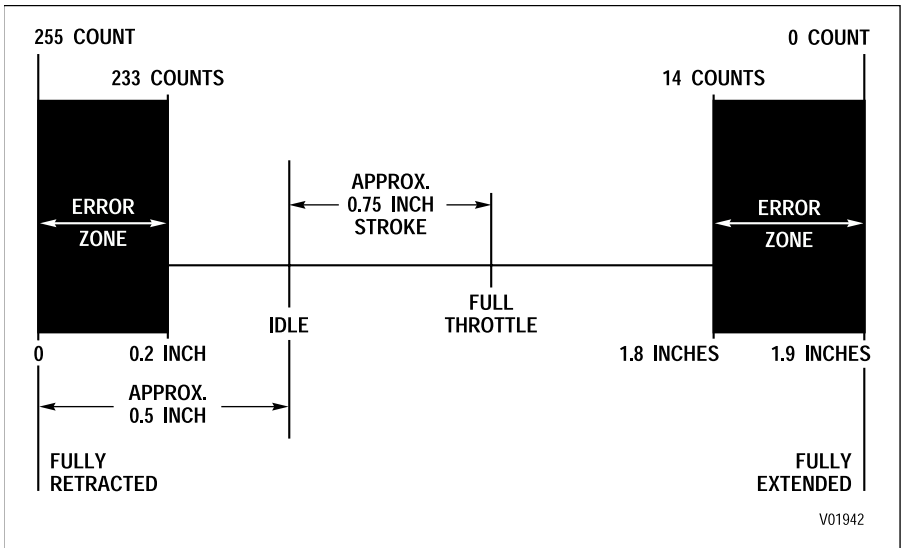

Figure 4-4. Throttle Position Determination Diagram
b. Throttle Position Sensor (TPS) Adjustment — When properly installed by the equipment manufacturer, the TPS should not need adjustment. If TPS adjustment is necessary, confirm that it has been installed to ATD specifications. The TPS is self-calibrating, and therefore has no optimum close throttle or full throttle count value. Idle count should be 50 or higher and full throttle should be 200 or lower. As long as the counts are in the 50 and 200 range, with a difference of 85 to 130 counts between closed and full throttle, the TPS is set correctly. Refer to Figure 4-4.